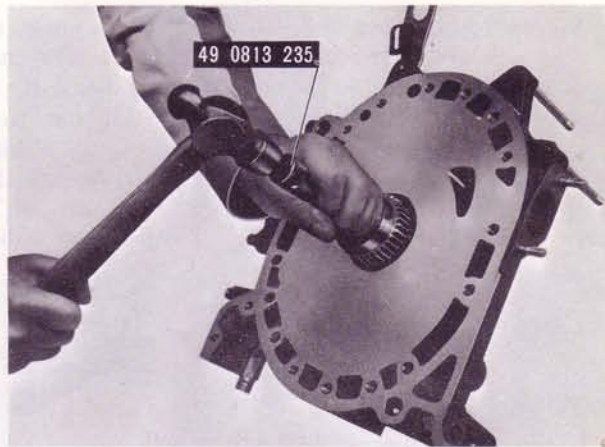

Fig. 1-30 Removing stationary gear assembly
- 1) Remove the stationary gear and main bearing assembly from the housing, using the **main bearing replacer** (49 0813 235), shown in Fig. 1-30.